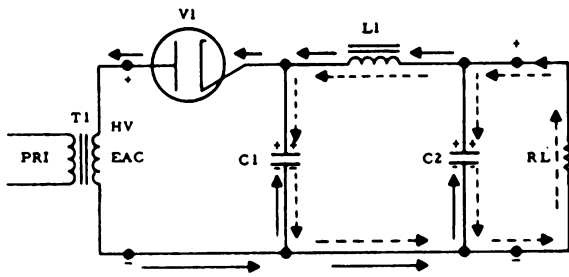
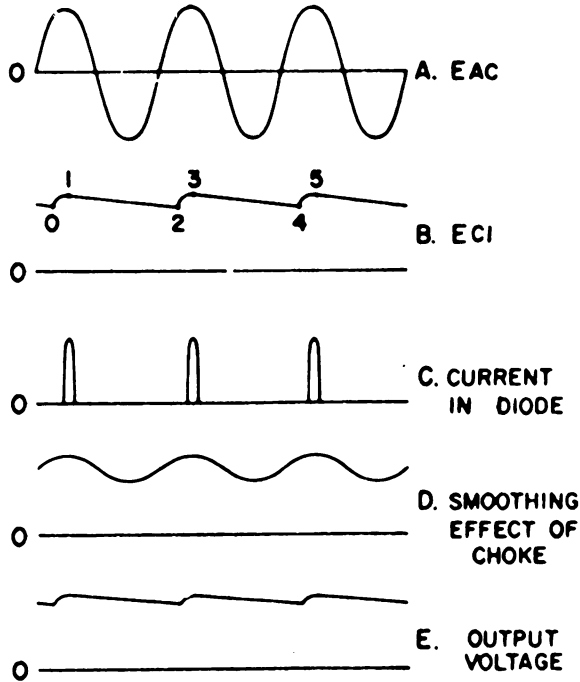

Figure 2-10. Capacitor input filter.
Figure 2-11. Capacitor input filter waveforms.
**Capacitor-input filter.** Figure 2-10 shows a half-wave rectifier using a capacitor-input pi-type filter. As the electrons flow in the path indicated by the solid arrows in figure 2-10, capacitors C1 and C2 are charged with the polarity shown. On the conducting half-cycle the polarity of the high-voltage secondary is as shown in figure 2-10. Thus, the voltage applied to V1 at any instant is the value of the AC voltage ( $E_{AC}$  in figure 2-10 minus the voltage ( $E_{C1}$ ) across C1, figure 2-11). As a result, the current flow from the diode ceases as soon as  $E_{C1}$  reaches the maximum (peak) value of  $E_{AC}$ . If  $R_L$  is not connected to the output terminals and if the filter capacitors are assumed to have no leakage, the output voltage across the output terminals is a pure DC equal to maximum value of  $E_{AC}$ , or 1.414  $E_{AC}$ . When the load resistor ( $R_L$ ) is connected across the output terminals, capacitors C1 and C2 begin to discharge through it. The discharge path is shown in figure 2-10 by the broken line arrows. The extent to which the capacitors discharge depends upon the load which, in turn, depends upon the impedance of the load,  $R_L$ . If  $R_L$  is large, C1 loses some of its charge, and the voltage across it begins to decrease to point 2 shown in figure 2-11, B. At point 2, the AC voltage across V1 has reached the point where it exceeds the
Examination of figure 2-11,B, shows that the only time V1 conducts is during the intervals 0 to 1, 2 to 3, and 4 to 5; that is V1 conducts only when the filter capacitors require recharging. The flow of current in V1 is shown graphically in figure 2-11,C. The amplitude and duration of these current pulses depend upon the value of the load, since all the current used by the load device is produced during these short pulses.
The current flow from C1 through RL must pass through the choke L1. An inductance opposes changes in current, and the changes are greatest at points 0, 2, and 4 of figure 2-11,B. If C2, shown in figure 2-10, were omitted, the
output voltage would resemble the waveform shown in figure 2-11,D. The average voltage at this point has dropped only slightly because of the DC voltage drop across L1. This decrease in voltage is equal to the product of the load current and the resistance of L1. Since the resistance of the wires in L1 is small and the load is light, the voltage drop across L1 is negligible. The filtering action of C2 is similar to that of C1, and the output is practically a pure DC voltage, as seen in figure 2-11,E.